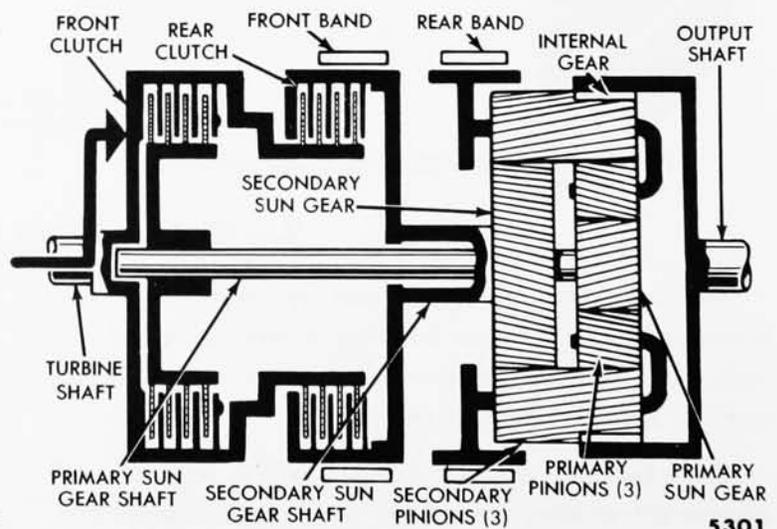

Fig. 9—Planetary Gear Train—Neutral Position
(1) **NEUTRAL.** When the transmission is in the neutral position, none of the gear train members are held or driven. Therefore, no power is transmitted to the output shaft (fig. 9).